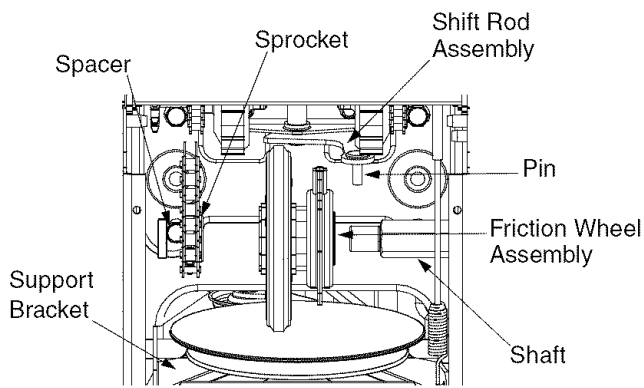

Figure 23
6. Move the gear shaft to the right and slide the friction wheel assembly from the shaft. See Figure 23.
10. Position the friction wheel assembly up onto the pin of the shift rod assembly, and slide the shaft through the assembly. Reassemble in reverse order. Refer to Figure 23.